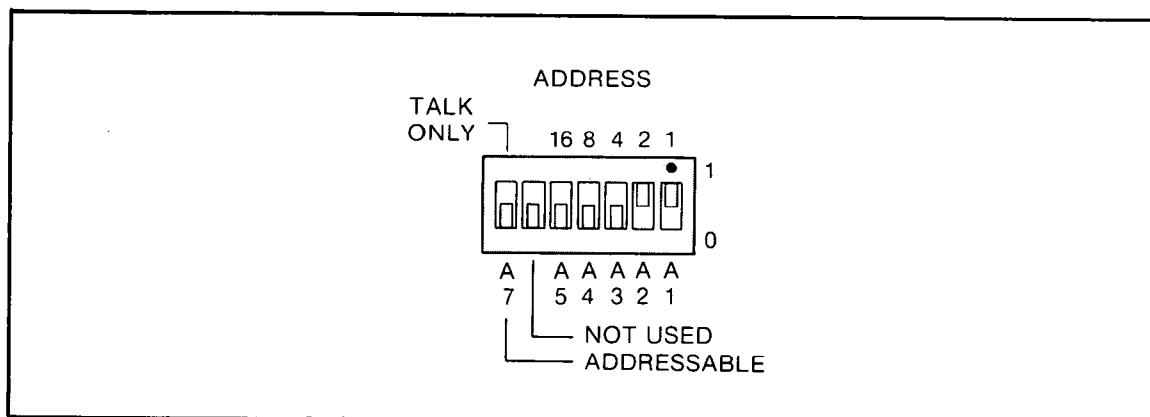

Figure 3-10. 5005B Address Switches
- a. TALK: The 5005B can be addressed to Talk by a controller or by the TALK ONLY switch. When addressed as a Talker, the 5005B will send data to other devices on the bus. This data is the result of the measurement or the next measurement, depending on the function selected. The TALK ONLY switch and the HP-IB address switches are located on the rear panel (see Figure 3-10).
3-93. The five rightmost switches, A5 through A1, set the TALK and LISTEN addresses of the 5005B when it is used in the addressable mode. *Table 3-18* shows all possible address settings and the corresponding ASCII codes for talk and listen. The 5005B is factory set to address 03 as shown in *Figure 3-10*.